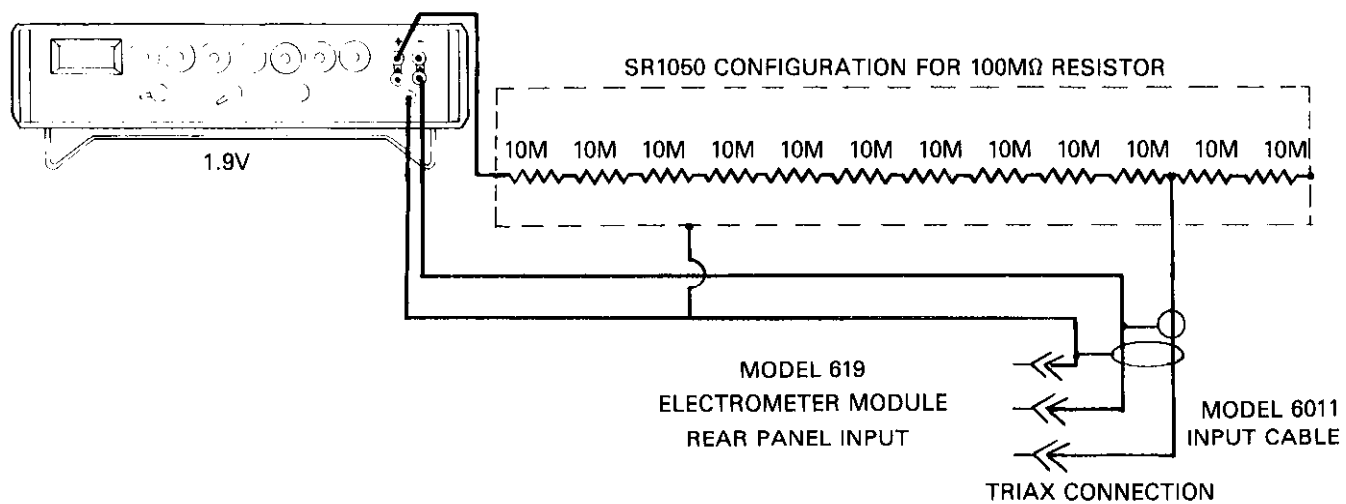

Figure 6-6. Range Calibration, 20nA
9. 20nA Range Calibration: Zero Check the Model 619 and downrange to the 20nA range. Apply + 19.000nA to the input of the Model 619, release the Zero Check and adjust R654 for a display reading of + 19.000 -9 to within  $\pm 2$  counts. Refer to Figure 6-6.